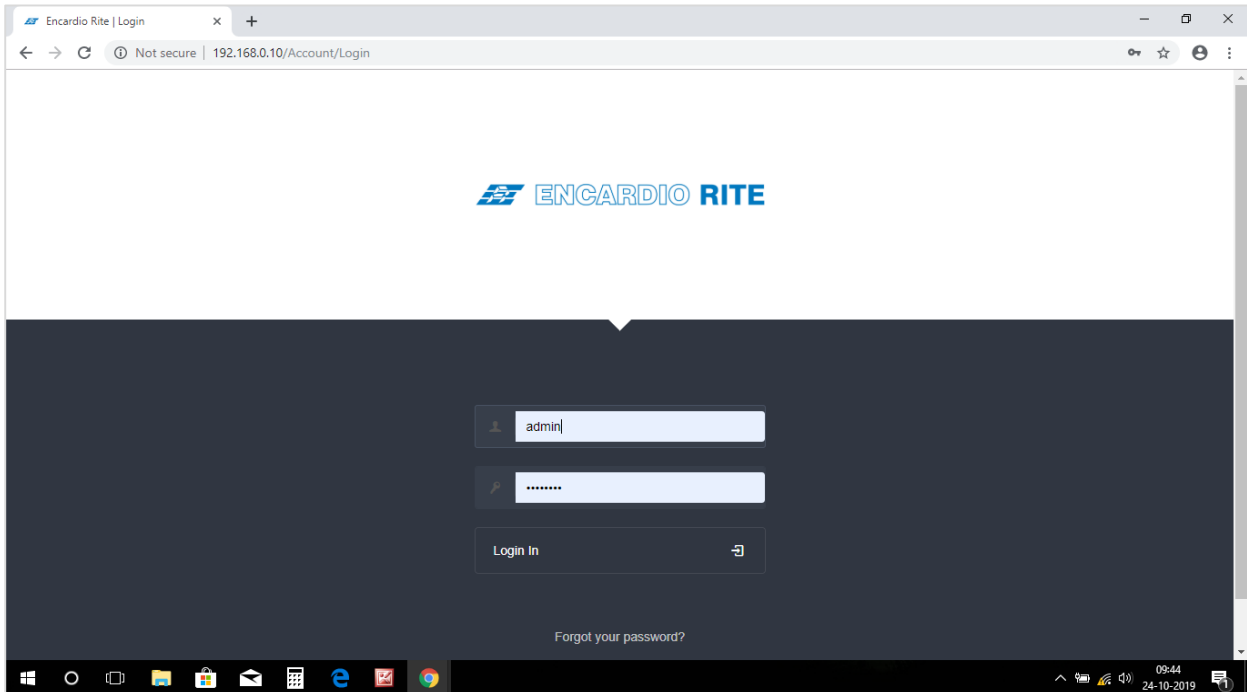

Figure 3-3
- 5 In any of the available internet browser (like Google Chrome, Internet Explorer etc.), open url link <http://192.168.0.10>. Enter username and password as given below (as shown in figure 3-3)